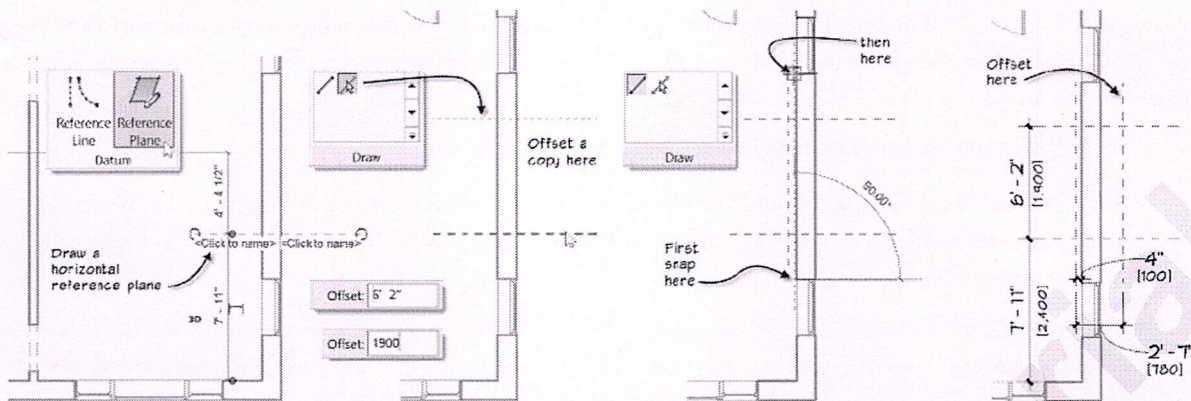

FIGURE 4.61 Create two horizontal and two vertical reference planes to frame out the fireplace footprint (dimensions for reference only)
- ⇒ Edit the Temporary Dimension from the bottom horizontal wall to: **7'-11" [2400]** (see the left side of Figure 4.61).
4. Click to create the new reference plane (second panel from the left in Figure 4.61).
- ⇒ Snap to the endpoint of the upper window on the inside edge of the wall (third from the left in Figure 4.61).
- ⇒ Offset the reference plane you just drew to the outside of the house (see the right side of Figure 4.61).